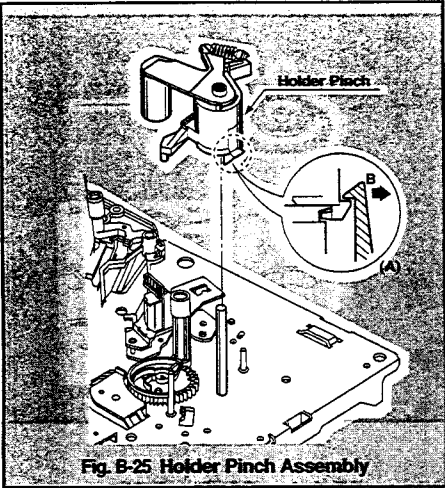

Fig. B-25 Holder Pinch Assembly
25. Holder Pinch Assembly (Fig. B-25)